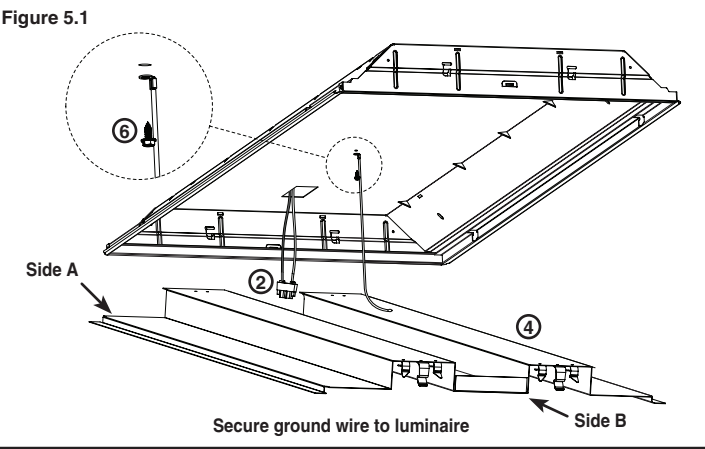

Figure 5.2
7. Connect the power supply disconnect from luminaire to the pre-assembled disconnect attached to the driver power supply wires (see Figure 5.2).
8. Install liner side "A" into the luminaire first, and then install side "B". Install sides of liner between the grid (not shown) and luminaire. (See Figure 5.2).